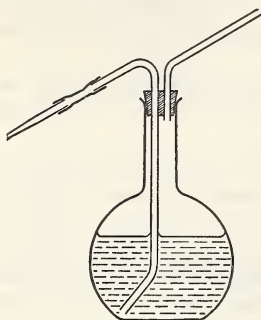

Fig. 7. A wash bottle
9. Washing a precipitate. When an insoluble substance is filtered out of a solution, the pores of the filter paper retain a portion of the solution itself. Some of the solution also adheres to the particles of retained solid. To eliminate all traces of the soluble material, the residue is washed by adding distilled water. The wash bottle shown in Figure 7 is commonly used as a container for the distilled water. On blowing into the mouth-piece, a fine stream is forced out of the jet. Sometimes the water is poured directly from the mouth-piece in 5 to 10 ml. portions, and each portion is allowed to run through the filter paper before adding the next. This treatment is continued until all the soluble
Constructing a wash bottle. A wash bottle is shown in Figure 7. The nozzle should be drawn out so that only a moderately fine stream of water is forced out by gently blowing into the mouthpiece. All the ends of the glass tubing used must be fire-polished. Wash bottles are of value as containers for distilled water to be used in washing precipitates, making special solutions, rinsing glassware, etc.